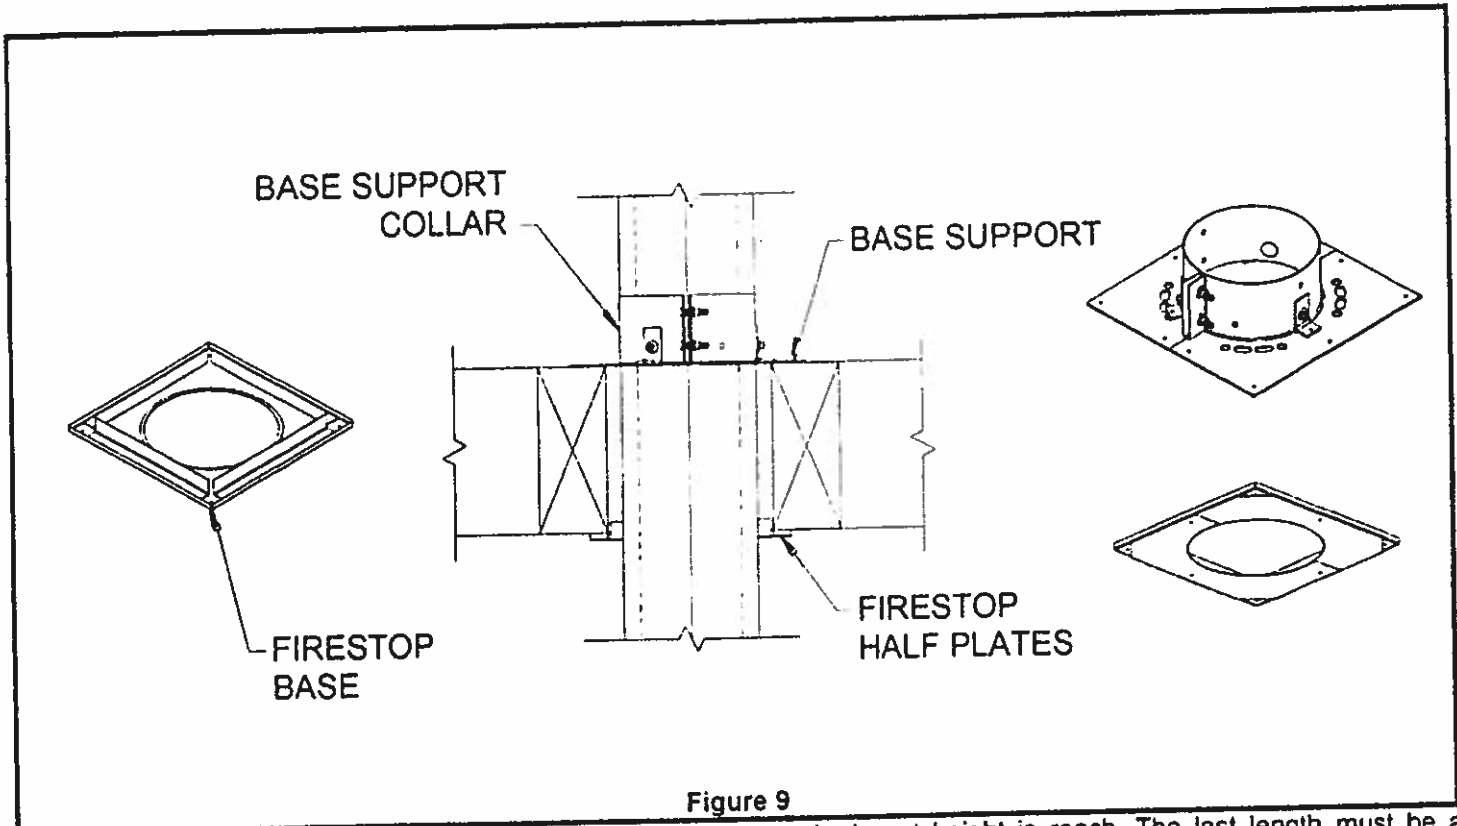

Figure 9
3. From below, install a Radiation Shield in each floor opening. If you are installing a Base Support on top of the floor you will need to adjust the height of the radiation shield to match the floor thickness. The radiation shield is supplied fully extended. To adjust the radiation shield slide the top tube to the desired height then screw the two sections together with the self tapping screws provided (see Figure 9).
5. After the vent passes through a floor opening screw the two half plates (supplied with the Radiation Shield) using the pre-punched holes to the Radiation Shield base (see Figure 9). This will seal the gap around the vent and the Radiation Shield.